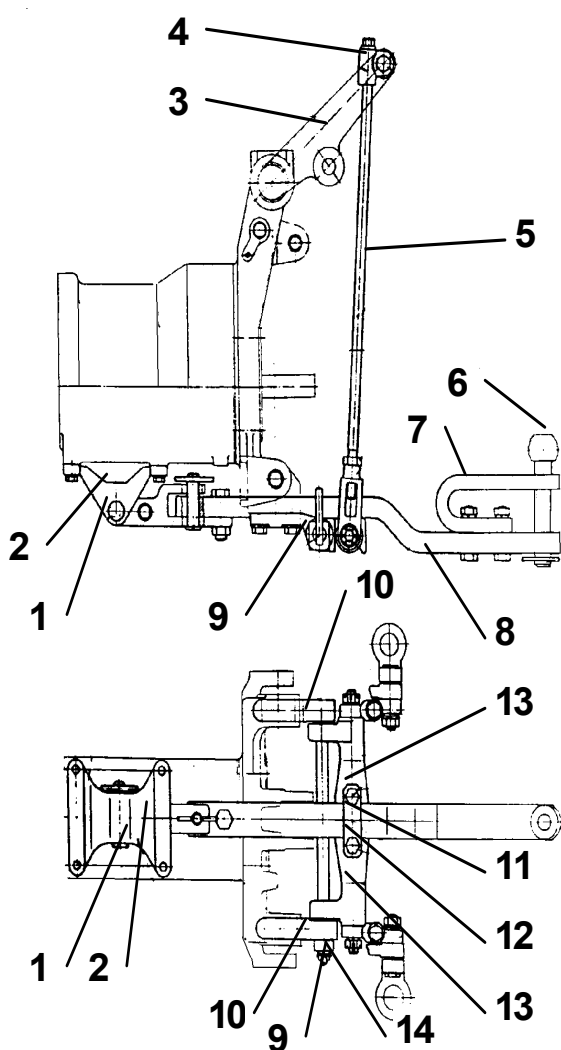

Fig. F-56. Lower tow coupling
14. LOWER TOW COUPLING (Fig. F-56) AND UPPER TOW COUPLING (Fig. F-56a)
The lower tow coupling is designed for towing of agricultural machines, single-axle trailers and car trailers. The coupling can be replaced in the vertical plane with use of a hoist. Spherical part of the bolt (6) is designed for coupling of a car trailer. While in transport position the coupling is locked with the bolt 9 (Fig. F-56) put in openings of the bracket (10) and the transverse beam (13) in the rear lower part of the rear PTS housing.